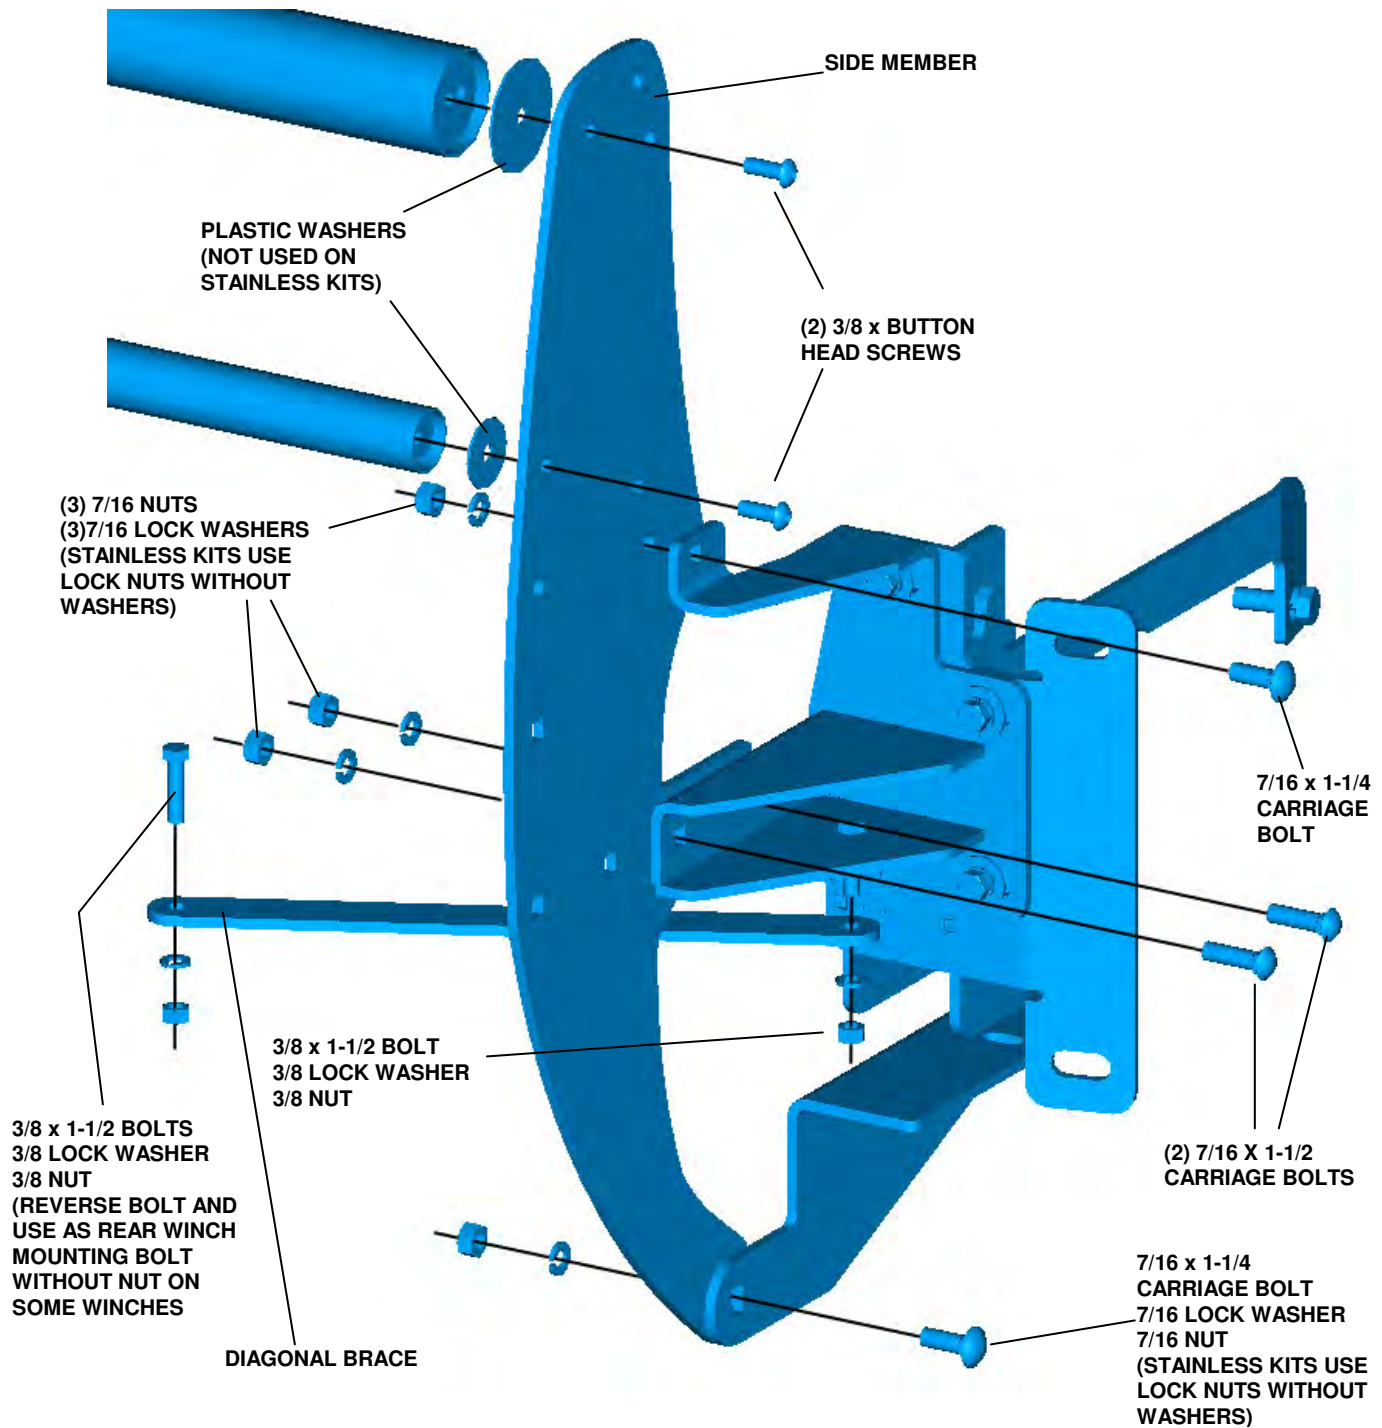

Figure 11 Side Member, Diagonal Brace and Center Tubes (Bumper and grille not shown for clarity)
- 15.** Hold a spacer tube inside the frame and insert a 7/16 x 3-1/2" bolt through one of the holes drilled with the Template and the spacer from outside the frame. These spacers will prevent frame distortion when the bolts are tightened. Do not push the bolt through the inside frame wall yet. Repeat this step for each hole drilled with the template. See **Figure 11**
20. If the Trans4mer is being installed as a Grille Guard and a winch is not being mounted at this time, skip this step and install the tubes in any desired position as shown in **Figure 11**. If a winch is to be installed proceed with the next step.